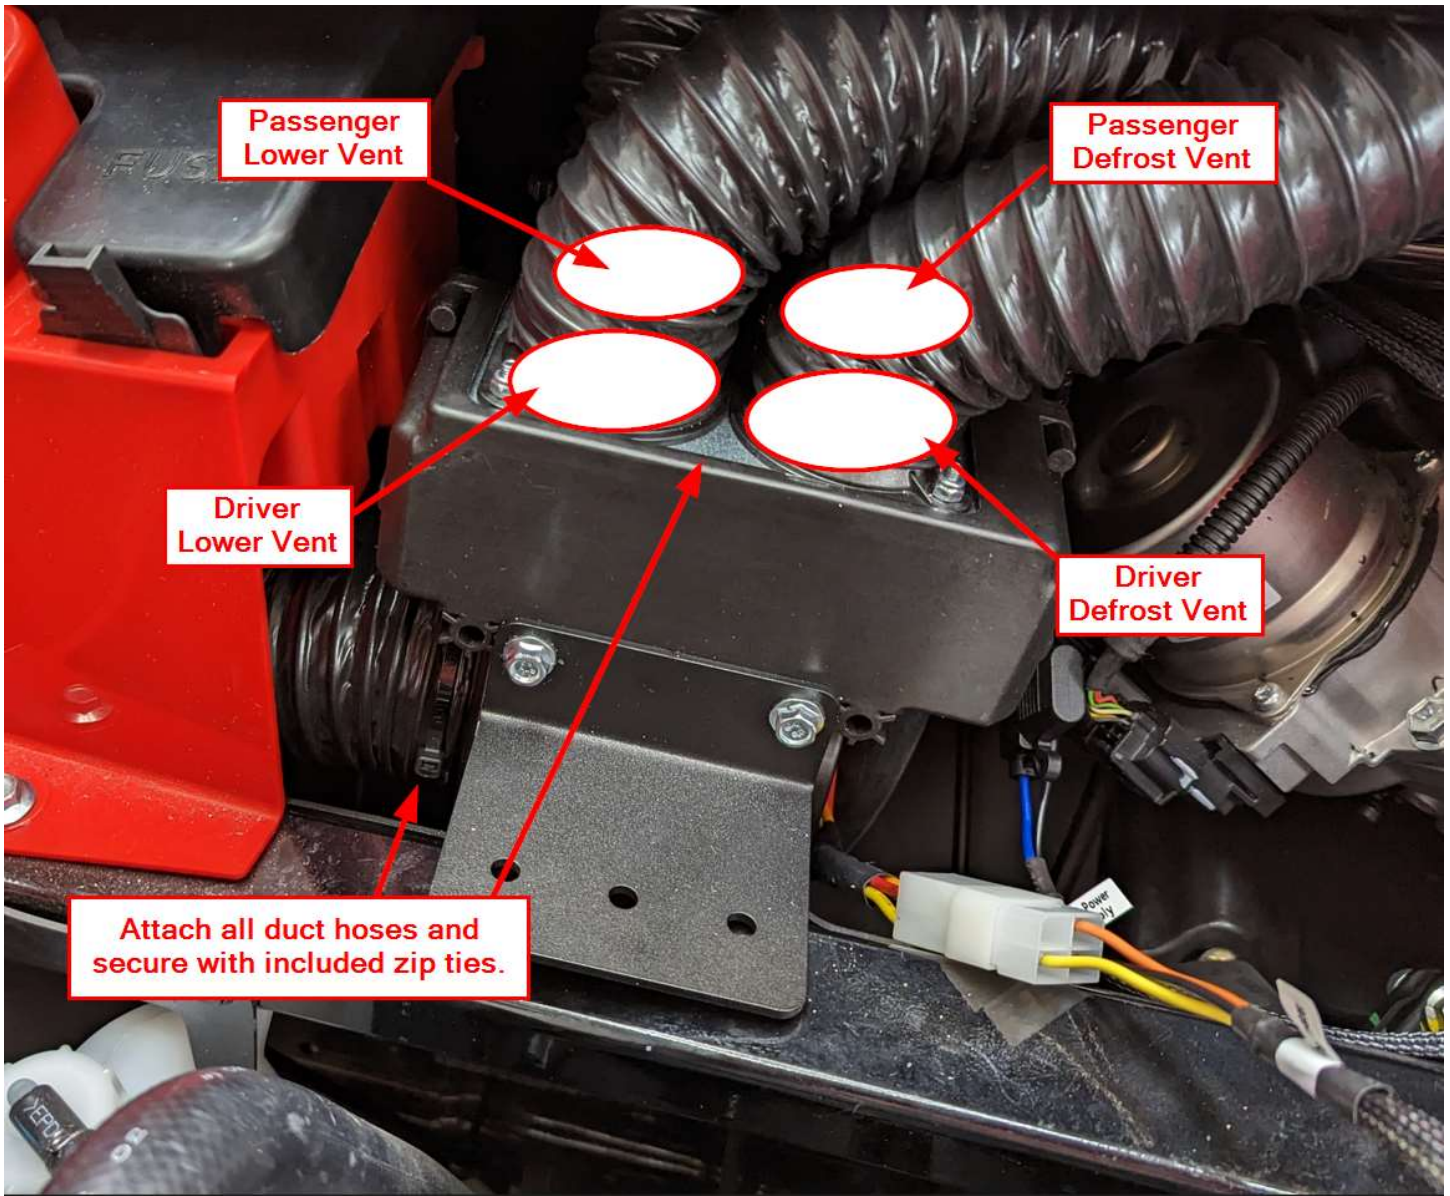

Figure 18
- b. With the Heater and Bracket still mobile, attach the 3" Duct Hose to the air intake on the side of the heater as shown in Figure 18. Use the remaining 15" Zip to secure it.
- c. Attach the 2" Duct Hoses to the 50mm Ports on the Heater as shown in Figure 18. Secure with zip ties.